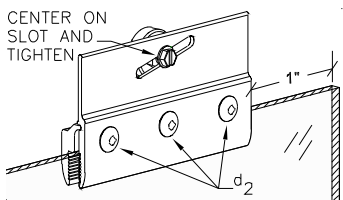

figure 5
If you are furnishing your own glass panel for this unit . . . proceed to step 8, now. If the glass panels came with the unit you purchased, then the bracket assemblies (d1 thru d4) in the parts table are already installed. Center your Nylon Rollers (d3) on the Hanger Brackets and tighten down on the Rollers Screws (d4) as shown in figure 5 and proceed to step 9, now.
8. Using Bracket Screws (d2), loosely assemble the two piece Hanger Bracket Assemblies (d1). Do not install rollers at this time. Position brackets over glass edges as shown in exploded view - sheet 1 and figure 5 on this sheet. Position the Hanger Brackets an inch from vertical edge of glass as shown and tighten down on the screws (allen wrench required). Next install the rollers as shown and tighten down on screw.
9. Install the outside Glass Panel (D) by lifting the Panel up and into the Header (B). Lower the Panel into the Track Guide (I) and engage the Rollers (d3) with the roller track.